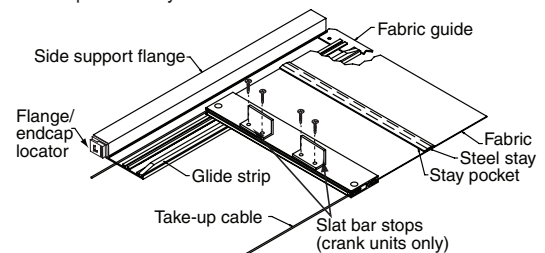

Figure 6
- ③ **For crank units:** Attach short end of "L"-shaped Stay Bar Stops to Stay Bar (Figs. 6 and 13).
- ⑤ **For all:** If the unit is to be inside (jamb) mounted, then go to step 4. If the unit is to be outside (face) mounted, then install one fabric guide at the fabric end of each side support flange (see Fig. 6). Make sure the bevel, or bent portion, is placed so that it points away from the fabric when the shade is closed.